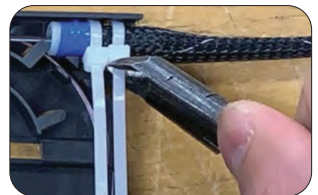

Figure 6
6. Snip off ends of cable ties close to head. **(Figure 6)**